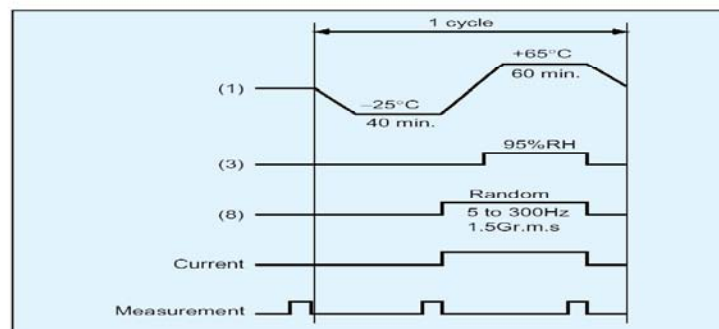

Fig. 2 Temperature-humidity-vibration CERT
- (1) × (3) × (8) — (8) Random (Refer to Fig. 2)
(8) Sine (at 5 to 200 Hz, 0.5G, 5 min. sweep)